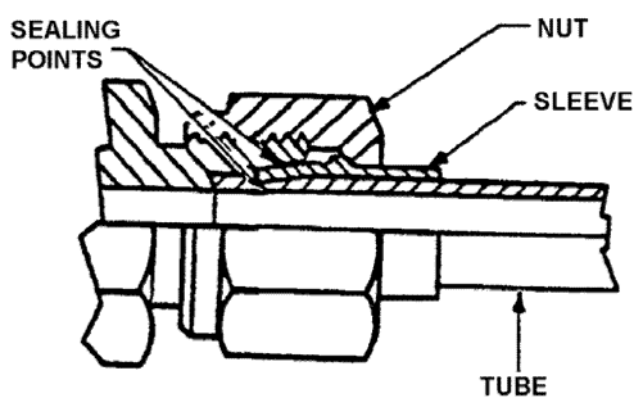
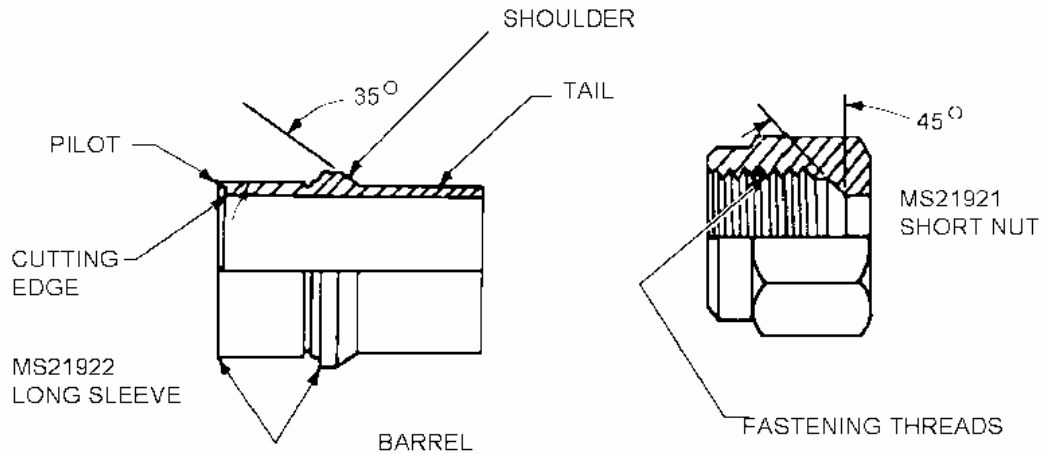

Figure 11. Flareless Fitting Assembly
Figure 12. Long Sleeve and Short Nut
24. Check After Presetting. After presetting, unscrew nut from presetting tool or flareless fitting body and check sleeve and tube (Figure 11 and Figure 12) for the following:
a. Sleeve cutting lip shall be imbedded into tube outside diameter between .003 inch and .008 inch (1), depending on size and tubing material.
b. A lip of material will be raised under the pilot (2). The pilot of the sleeve shall contact or be quite close to outside diameter of tube (3).
c. The tube projection from sleeve pilot to tube end (4) shall be as listed in Table 8.
d. Sleeve shall be bowed slightly (6).
f. Sealing surface of sleeve (5) which contacts the 24 degree angle of fitting body seat shall be smooth, free from scores, and shall not show lengthwise or circular cracks.